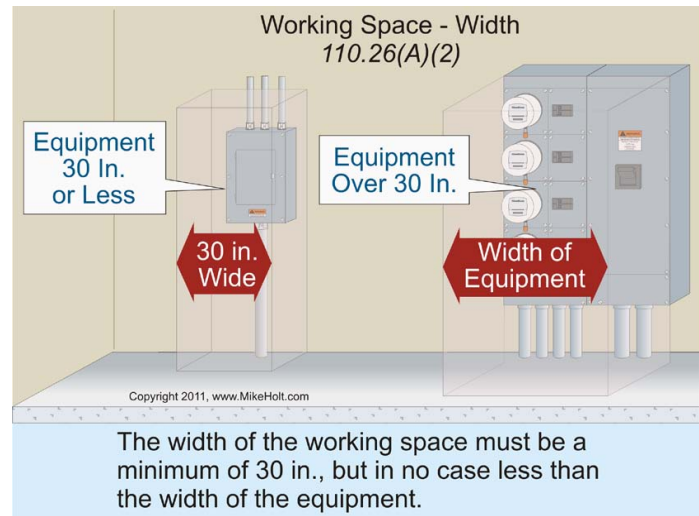

Figure 110-23
(2) Width of Working Space. The width of the working space must be a minimum of 30 in., but in no case less than the width of the equipment. **Figure 110-23**